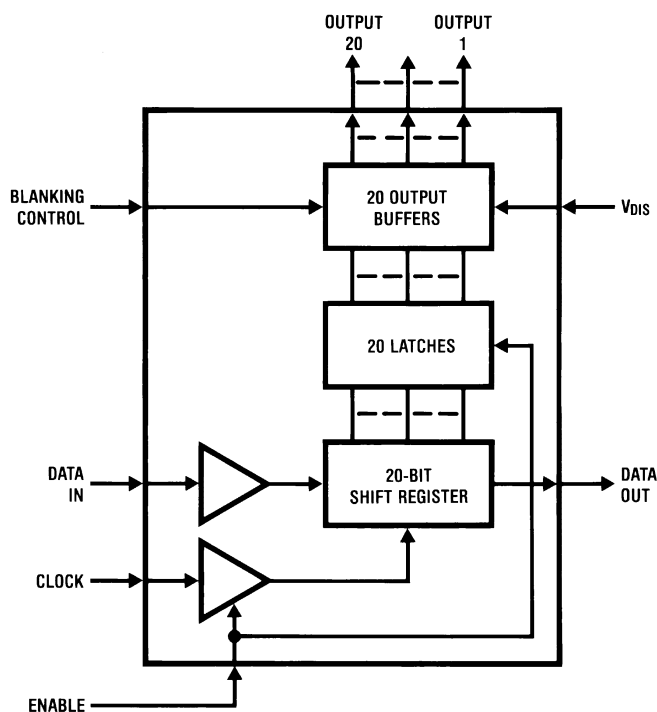

FIGURE 1.
This product is specifically designed to drive multiplexed or non-multiplexed high voltage alphanumeric or dot matrix vacuum fluorescent (VF) displays. Character generation is done externally in the microprocessor, with a serial data path to the display driver. The MM58342 uses three signals, DATA IN, CLOCK and ENABLE, where ENABLE acts as an external load signal. Display blanking can be achieved by means of the BLANKING CONTROL input, and a logic "1" will turn off all sections of the display. A block diagram of the MM58342 is shown in *Figure 1*.